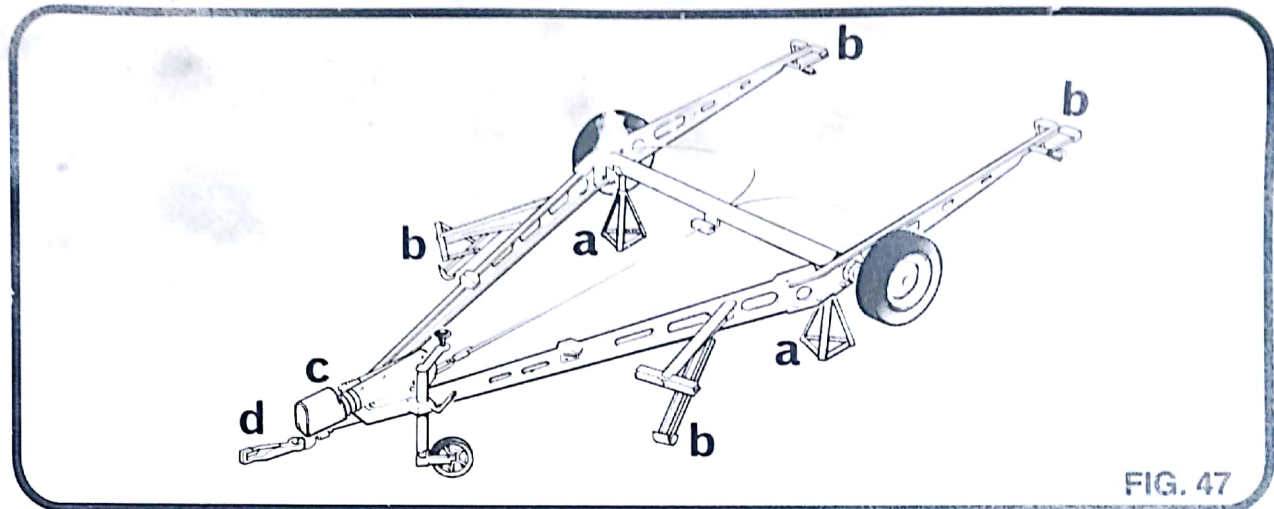

FIG. 47
- (f) Locate the ball coupling (12) in place so that its holes are aligned with those of the towing tube (2).
- (g) Align the holes in the shock absorber (13), ball coupling (12) and towing tube (2). Secure using bolts (9 and 9a), bracket (28) and nuts (10). Confirm that the coupling moves freely.
- (h) Depress the shock absorber and align the stop plate (15) to the eye on the innermost end of the shock absorber. Secure using bolt (1) and nuts (14 and 38).
3.6 Storing Your Caravan (Fig. 47)